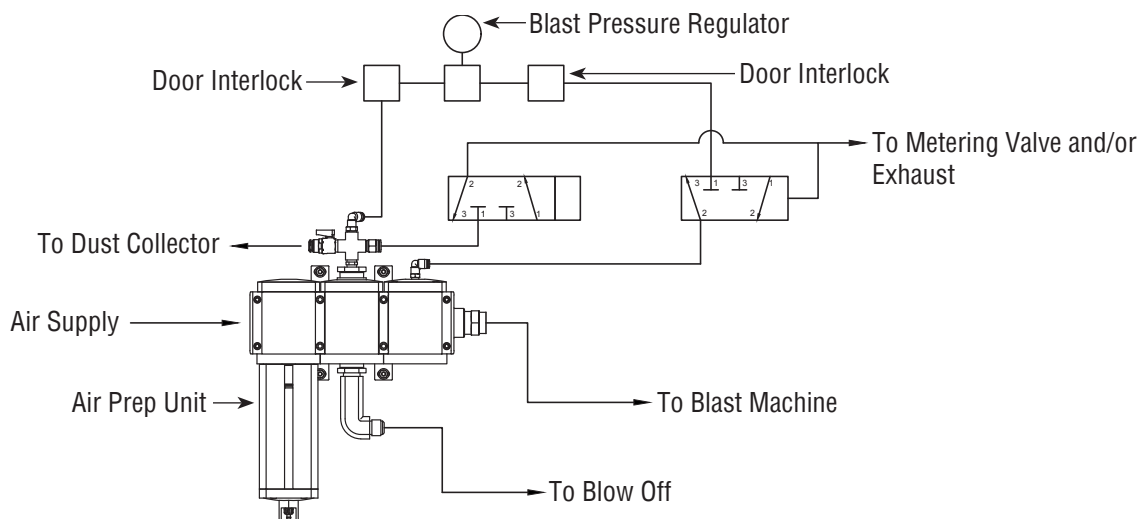

FIGURE 6
**2.8.1.1** | Attach the 1/2" blow-off hose coming from the cabinet hopper to the compatible fitting on the blast machine piping, located between the air filter and pressure regulator. Refer to the schematic in **Figure 6**.